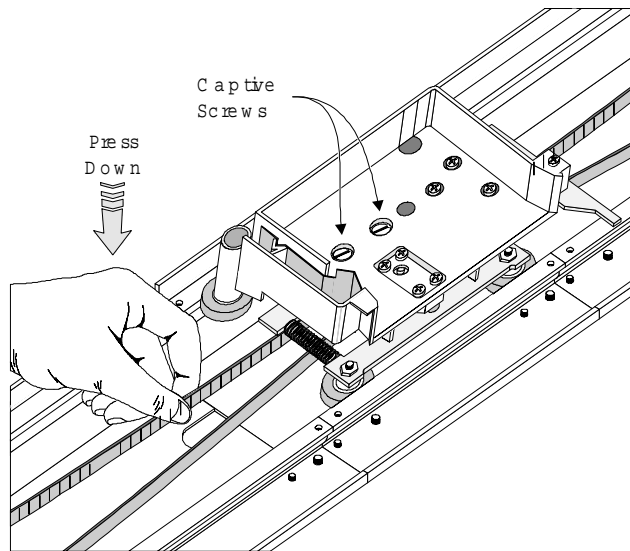

Figure 2-9 Aligning the Captive Screws With the Block
4. Locate the spring-loaded wheels of the car. Referring to Figure 2-9, engage the spring-loaded wheels in the track, while positioning the car so the captive screws are directly over the holes in the belt block. *Note:* Figure 2-9 omits the door on the car for clarity. *Do not remove the door.*
3. Referring to Figure 2-9, open the door of the car to gain access to the captive screws. *Do not remove the door.* Loosen the captive screws until they are disengaged from the belt block.